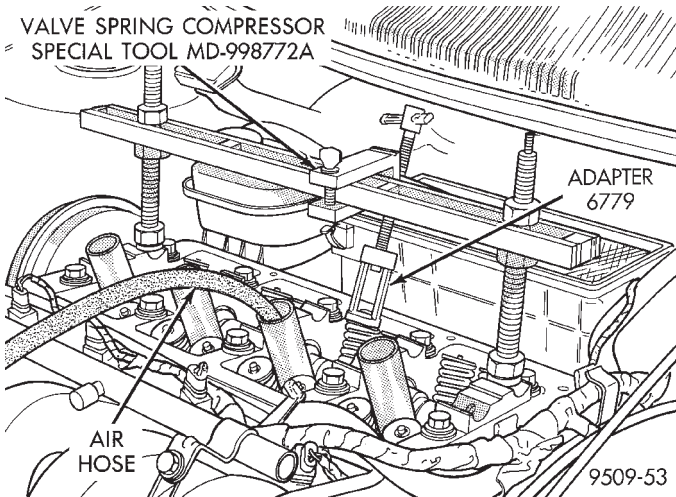
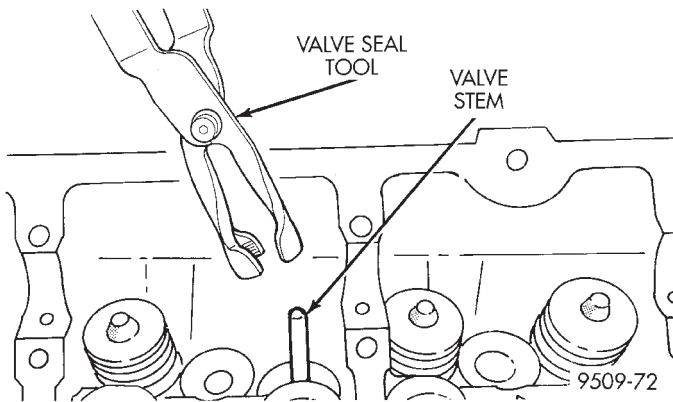

Fig. 27 Removing and Installing Valve Spring
Fig. 28 Valve Stem Oil Seal Tool
- (1) Remove rocker arm shafts assemblies as previously outlined in this section.
- (2) Rotate crankshaft until piston is at TDC on compression.
- (3) With air hose attached to adapter tool installed in spark plug hole, apply 90-120 psi air pressure.
- (4) Using Special Tool MD-998772A with adapter 6779 (Fig. 27) compress valve springs and remove valve locks.
- (5) Remove valve spring.
- (6) Remove valve stem seal by using a valve stem seal tool (Fig. 28).